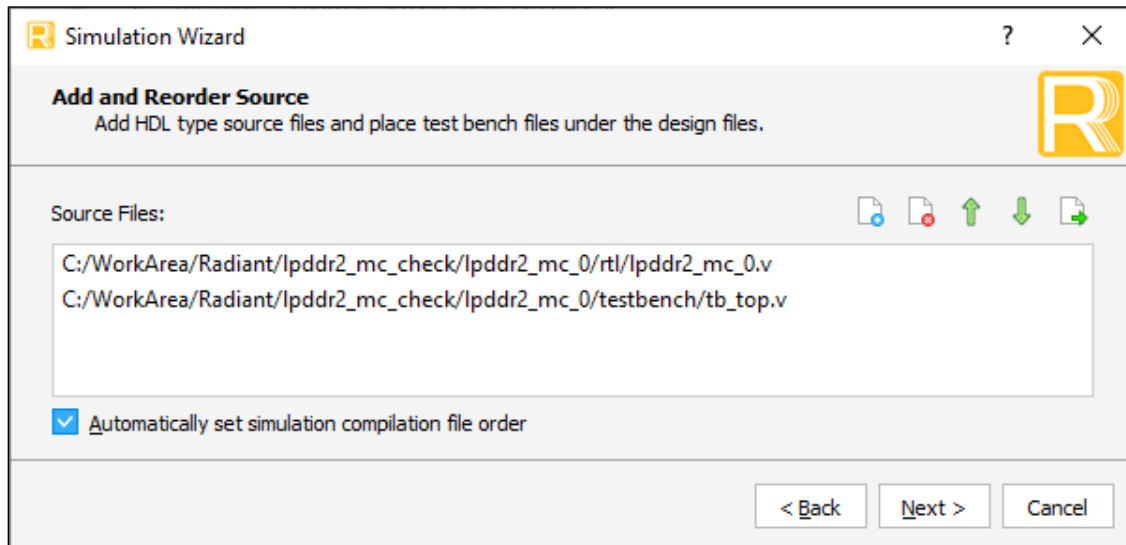

Figure 3.5. Adding and Reordering Source
- Click **Next** to open the **Add and Reorder Source** window as shown in Figure 3.5. Notice that the **Source Files** area only contain the generated IP (<Component name>.v) and the tb\_top.v, which is added in Step 1. The tb\_top.v includes all the necessary test files for simulation.